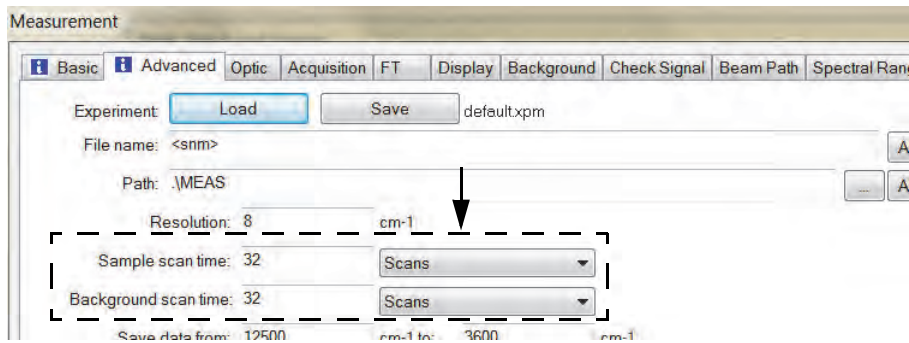

Figure 4.5: Defining number of scans
3. On the dialog that opens, define the number of scans in the *Sample/Background Scan Time* entry fields (figure 4.5).